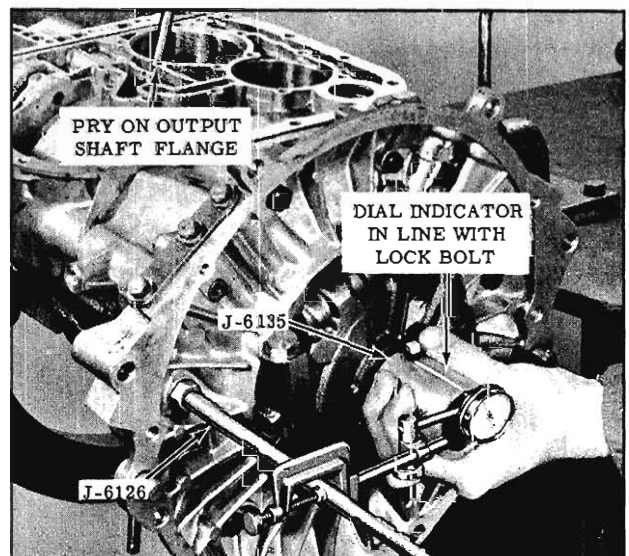

Fig. 6-27 Check End Play
2. Install Tool J-6126 into transmission case. (Fig. 6-27)
6. At the same time move Tool J-6135 and record end play. (Fig. 6-27)